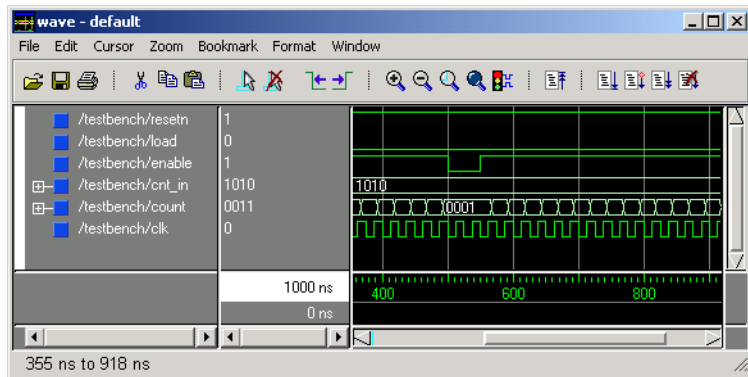

Figure 9-5. ModelSim for Actel Wave Window
5. **When the compilation completes, the simulator runs for 1uS and the Wave window opens to display the simulation results, as shown in Figure 9-5.** (To change the 1us default runtime, see “Simulation Settings” on page 55.)